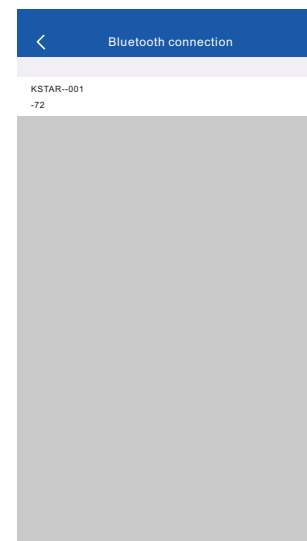

Fig.12
- ③. After pairing, it enters the interface in Figure 12, and the page will automatically search for the bluetooth that can be matched and display the name of the bluetooth that can be connected. If the search fails of android phone page, click the refresh icon in the upper right corner to search again. The iphone automatically searches directly.